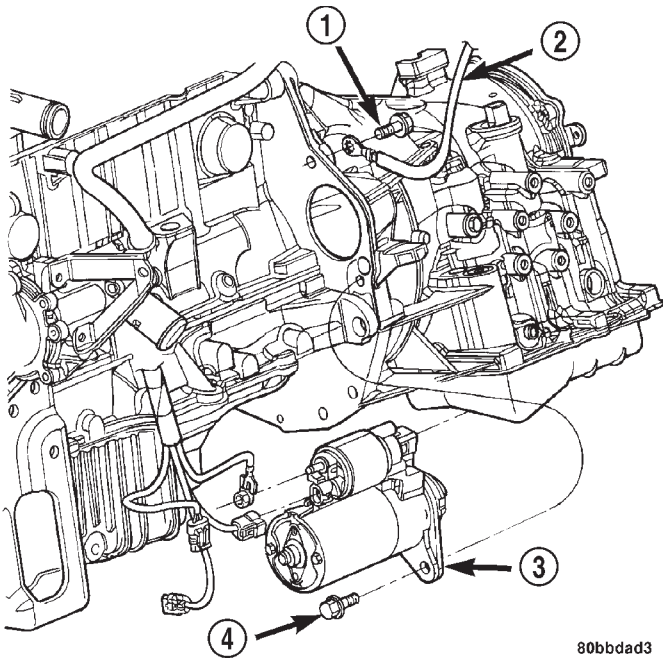

Fig. 16 Starter Motor Removal/Installation—Typical
(19) Remove starter motor (Fig. 16).
(7) Install starter motor and tighten bolts to 54 N·m (40 ft. lbs.) torque. Make sure to fasten ground cable to upper starter bolt as shown in (Fig. 16).